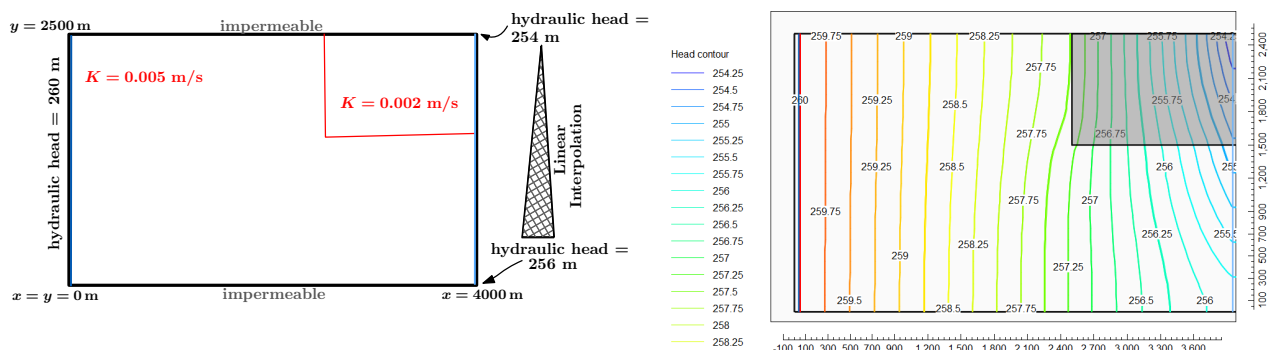
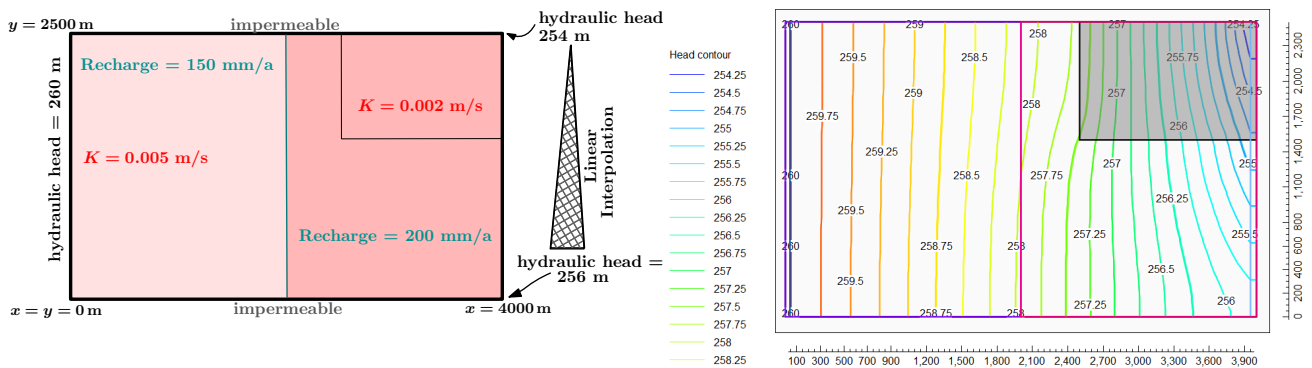

Figure 2: Left: The model domain and, right: the obtained hydraulic head isolines
Figure 3: Left: The model domain with recharge and, Right: Obtained hydraulic head isolines with recharge
- check hydraulic head isolines - the resulting plot should appear as in Figure 2:
- As observed in the Figure 2 the head isolines gets distorted in the low conductive zone. This is the expected result.
- ☐ check hydraulic head isolines - the resulting plot should appear as in Figure 3:
- The impact of river on the domain can be observed upon comparing Figure 2, Figure 3 and Figure 4. The river appears to significantly distort the head isolines pattern, and consequently it will influence the groundwater flow behaviour.